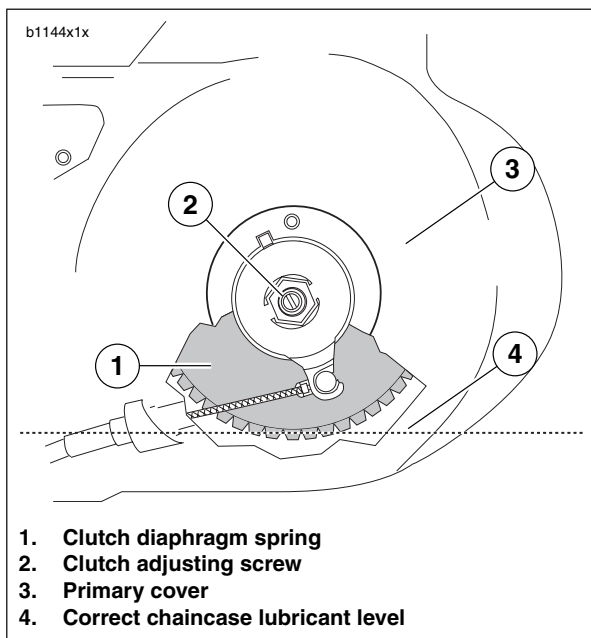

Figure 1-22. Fluid Level
6. See Figure 1-22. Add GENUINE HARLEY-DAVIDSON - FORMULA+ TRANSMISSION AND PRIMARY CHAINCASE LUBRICANT (Part No. 99851-05 quart size) as required until fluid level (4) is even with bottom of clutch diaphragm spring (1).